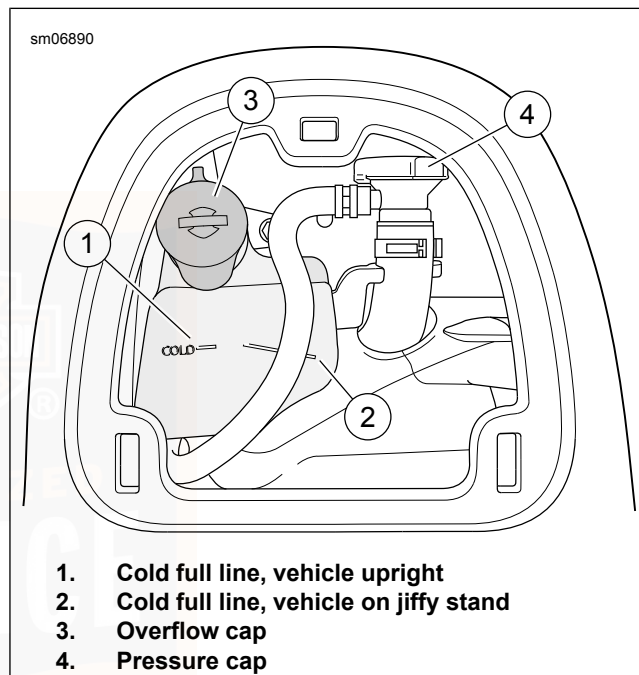

Figure 61. Coolant Level
See Figure 61. The coolant bottle has two lines. Use the angled line (2) when the motorcycle is leaning on the jiffy stand.
2. See Figure 61. Check that coolant level in coolant bottle is at or slightly above the "COLD" line (1).